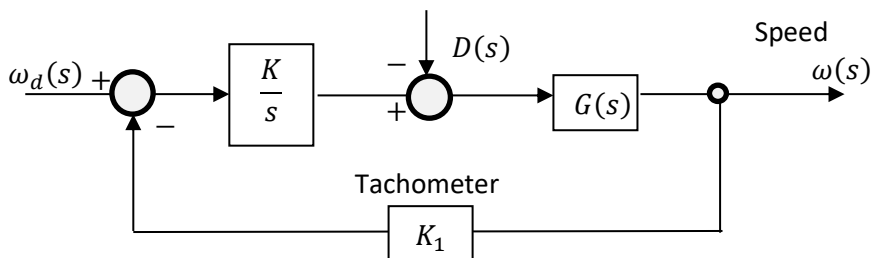

Figure 8.
8. A control system to maintain the speed of a motor is shown in figure 8.